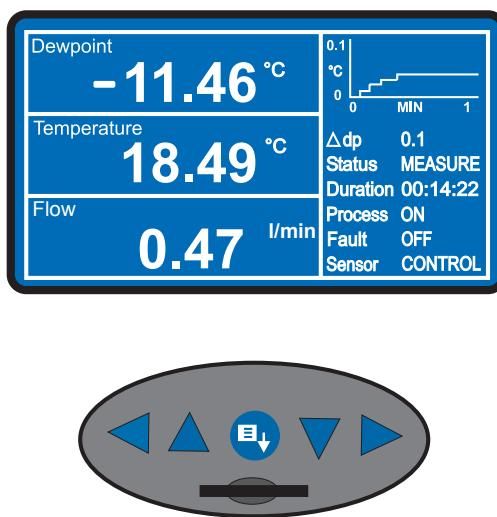

Figure 19      *Typical Front Page Display*
*Figure 19* shows a typical FRONT page display while the instrument is running in MEASURE Mode.